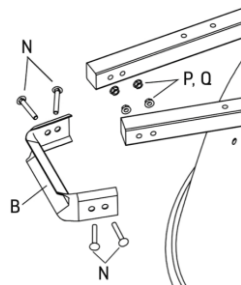

Fig. 5
11. Use the 8 x 40 mm bolts (N) and lock washers and nuts to attach the wheel guard (B) to the front of the handles (Fig. 5).